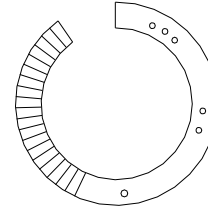

Fig. 5
- Turn the temperature control dial until you get to the desired temperature setting. (Fig. 5)